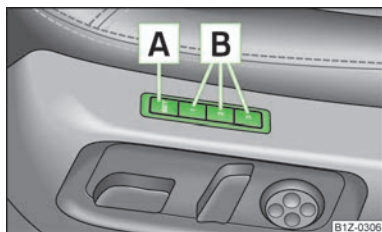

Fig. 42
The memory function for the driver's seat provides the option to store the individual positions of the driver's seat and the external mirrors. A setting position can be allocated to each of the three memory buttons  » Fig. 42, i.e. three in total.
- Press the button   » Fig. 42.
- Press the required memory button  » Fig. 42.
- **One-touch automatic memory:** briefly press the desired memory button  » Fig. 42 on page 56. The seat and exterior mirror are moved automatically into the stored positions (this applies only if the ignition is switched on and the speed is less than 5 km/h).